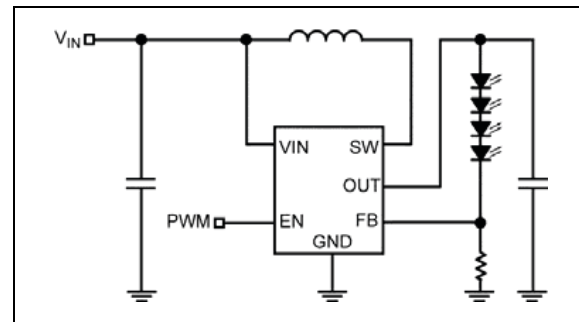

FIGURE 4-1: PWM Dimming Method.
1. PWM dimming control is implemented by applying a PWM signal on EN pin as shown in Figure 4-1. The MIC2292/93 is turned on and off by the PWM signal. With this method, the LEDs operate with either zero or full current. The average LED current is increased proportionally to the duty-cycle of the PWM signal. This technique has high efficiency because the IC and the LEDs consume no current during the off-cycle of the PWM signal. Typical frequency should be between 100 Hz and 10 kHz.